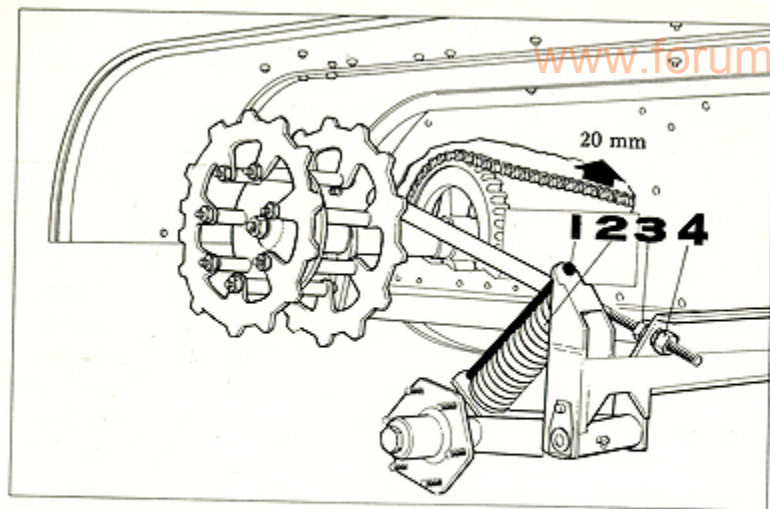

Fig. 20
1. Mount the black tightening bolt 1, which is placed in the tool box, in the holes over the spring 2 behind the front wheel, fig. 20.
Check the tension of the drive chains now and then, and after every 50 hours running. If the chains are insufficiently tensioned this can result in jerky running, particularly when travelling downhill. The chain tension should be checked on the slack part of the chain. The upper part of one of the chains can be tight while that of the other chain is slack. This depends on the direction in which the vehicle has been turned immediately before stopping. When correctly tensioned, it should be possible to lift the middle of the chain about 2 cm (3/4"). The chains are tensioned with the nuts 3, fig. 20, on either side of the vehicle body. Note that the vehicle should be driven straight forward at least 10 metres (33 ft.) on level ground before the chain tension is adjusted.